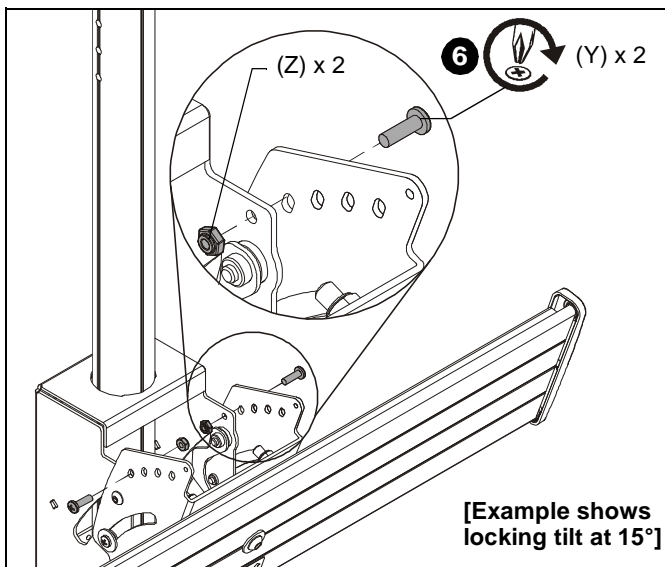

Figure 11
6. If using the tilt settings of 0°, 5°, 10° or 15°, insert two 10-24 x 1/2" Phillips head screws (Y) and two 10-24 lock nuts (Z) to lock mount at the specific tilt. (See Figure 11)